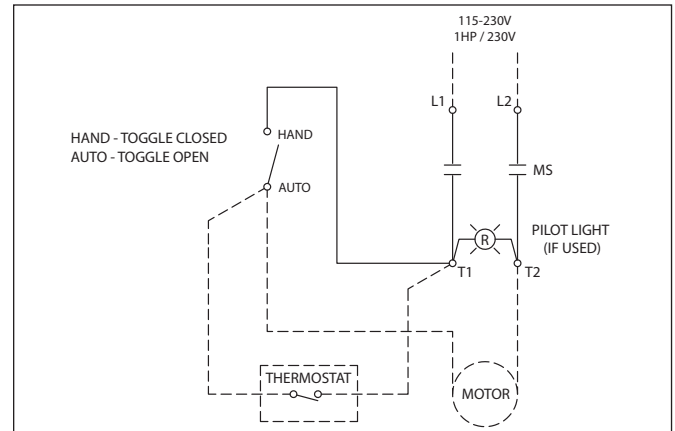

Figure 6. Wiring Diagram
8. Wire the line and load side terminals of the starter (C) per the wiring diagram shown in Figure 6.
9. Wire the available line terminal of the switch (B) into your remote source.